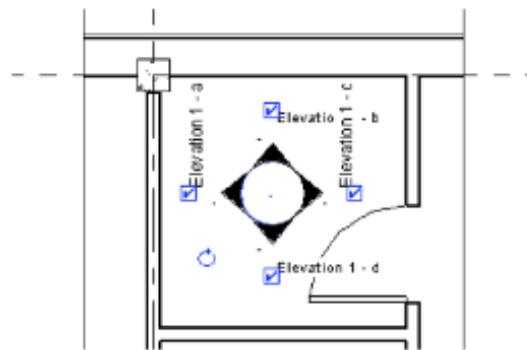

Figure 7–57
5. Click  (Modify and select the circle part of one of the elevation markers and check each of the boxes, as shown in Figure 7–57. This places an elevation in each direction.